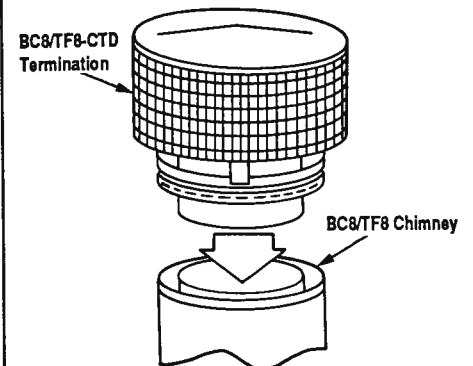

Figure 24
- 1) Hold CTD over top of last chimney section (Figure 24).